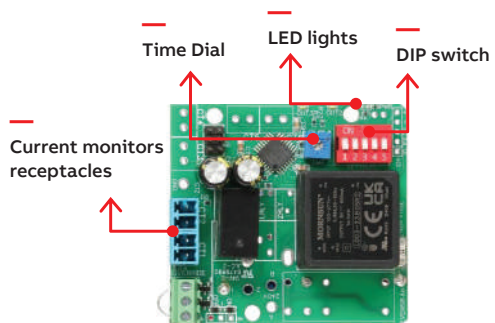

Figure 2*
- 2- Insert the two current monitoring device connectors into the corresponding receptacles on the control board. See Figure 2, p.7.